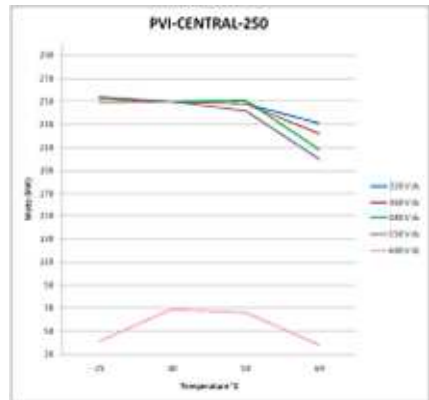
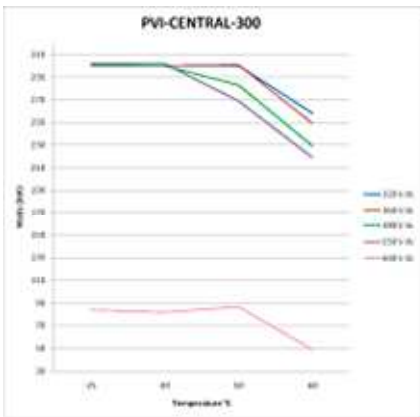

Figure 7-1: Power derating 250kW
Figure 7-2: Power derating 300kW
- Internal temperature control to automatically limit power if necessary and to guarantee that the unit does not overheat. The graph in the Figure 7-1 e Figure 7-2 shows the automatic derating of delivered power.